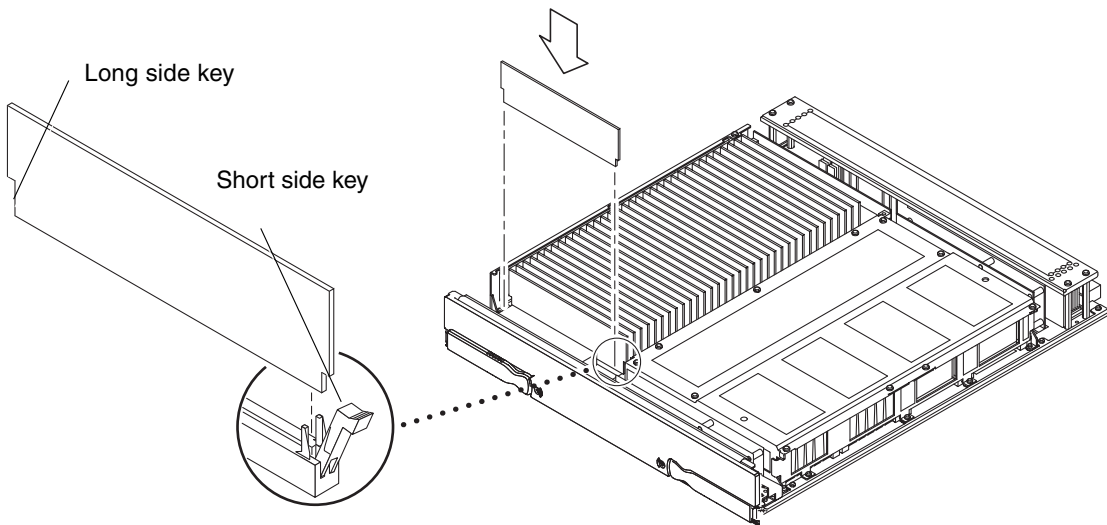

FIGURE 9-12 Installing a DIMM
7. Place your thumbs on the top edge of the DIMM. Push the DIMM firmly into its connector (FIGURE 9-12).